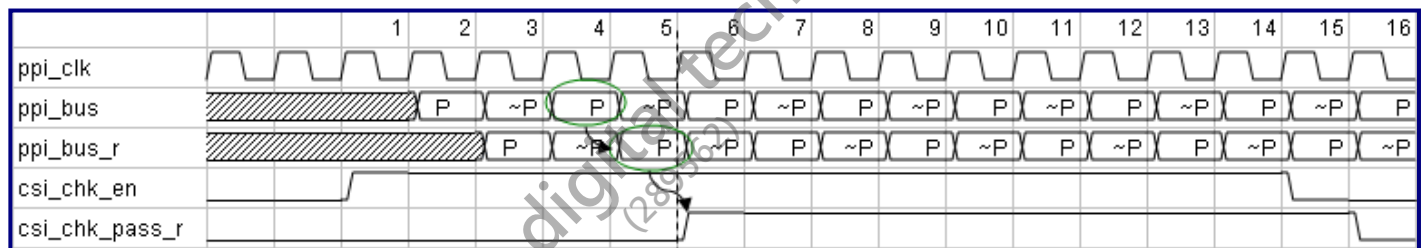
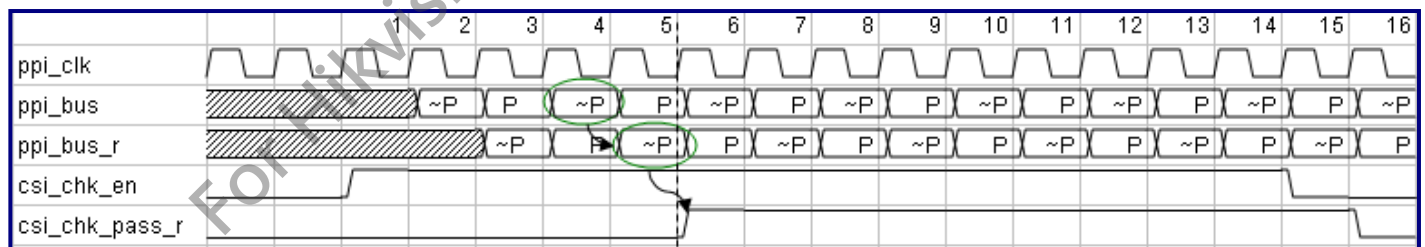
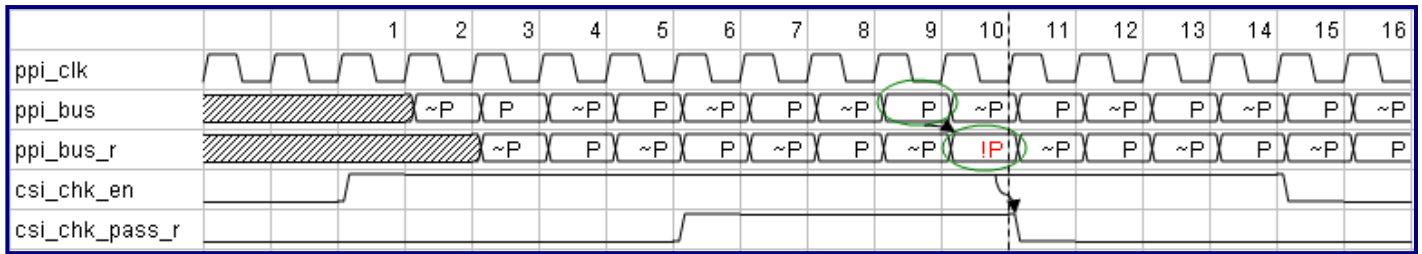

Figure 5-13. PPI Interface Data Checking Pass Case with Patterns = {P, ~P}
Figure 5-14. PPI Interface Data Checking Pass Case with Patterns = {~P, P}
Figure 5-15. PPI Interface Data Checking Fail Case
Note: csi_chk_pass_r will be asserted when ppi_bus of all data lanes existed in the FTCSIRX100 hardware match with patterns, P and ~P, as shown in Figure 5-13 or Figure 5-14.
The data checking schemes are shown in Figure 5-13 through Figure 5-15. If ppi_clk doesn't exist, these schemes can't work.
Figure 5-13 and Figure 5-14 show the pass cases and Figure 5-15 shows the fail case.
- For Figure 5-13, the input data pattern is P for the even number clock (4th, 6th, 8th ...) and ~P for the odd number clock (3rd, 5th, 7th ...) after csi_chk_en is asserted.
- For Figure 5-14, the input data pattern is ~P for the even number clock (4th, 6th, 8th ...) and P for the odd number clock (3rd, 5th, 7th ...) after csi_chk_en is asserted.
- FTCSIRX100 latches ppi_bus to ppi_bus_r by the ppi_clk clock and compares the expected data with ppi_bus_r. FTCSIRX100 begins to compare the data at the 5th clock after asserting csi_chk_en so that csi_chk_pass_r will be asserted at the 6th clock, as shown in Figure 5-13 or Figure 5-14.
- The output signal, csi_chk_pass_r, keeps as high when FTCSIRX100 constantly receives the expected data at ppi_bus_r until csi_chk_en is deasserted as shown in Figure 5-13 or Figure 5-14.
- Once the data mismatch is found, such as byte at 10th clock, as shown in Figure 5-15, csi_chk_pass_r will always be deasserted.